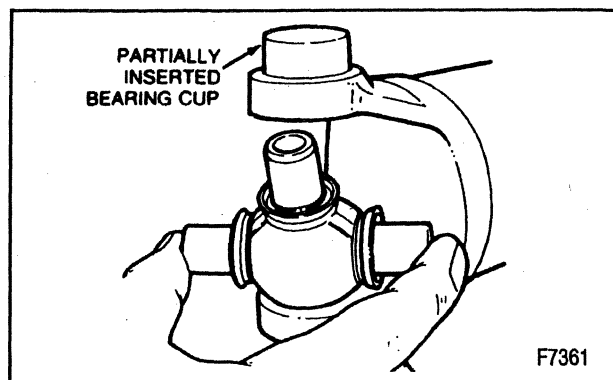

Figure 16—Partially Inserted Bearing Cup
1. One bearing cup part way into one side of the yoke (figure 16).